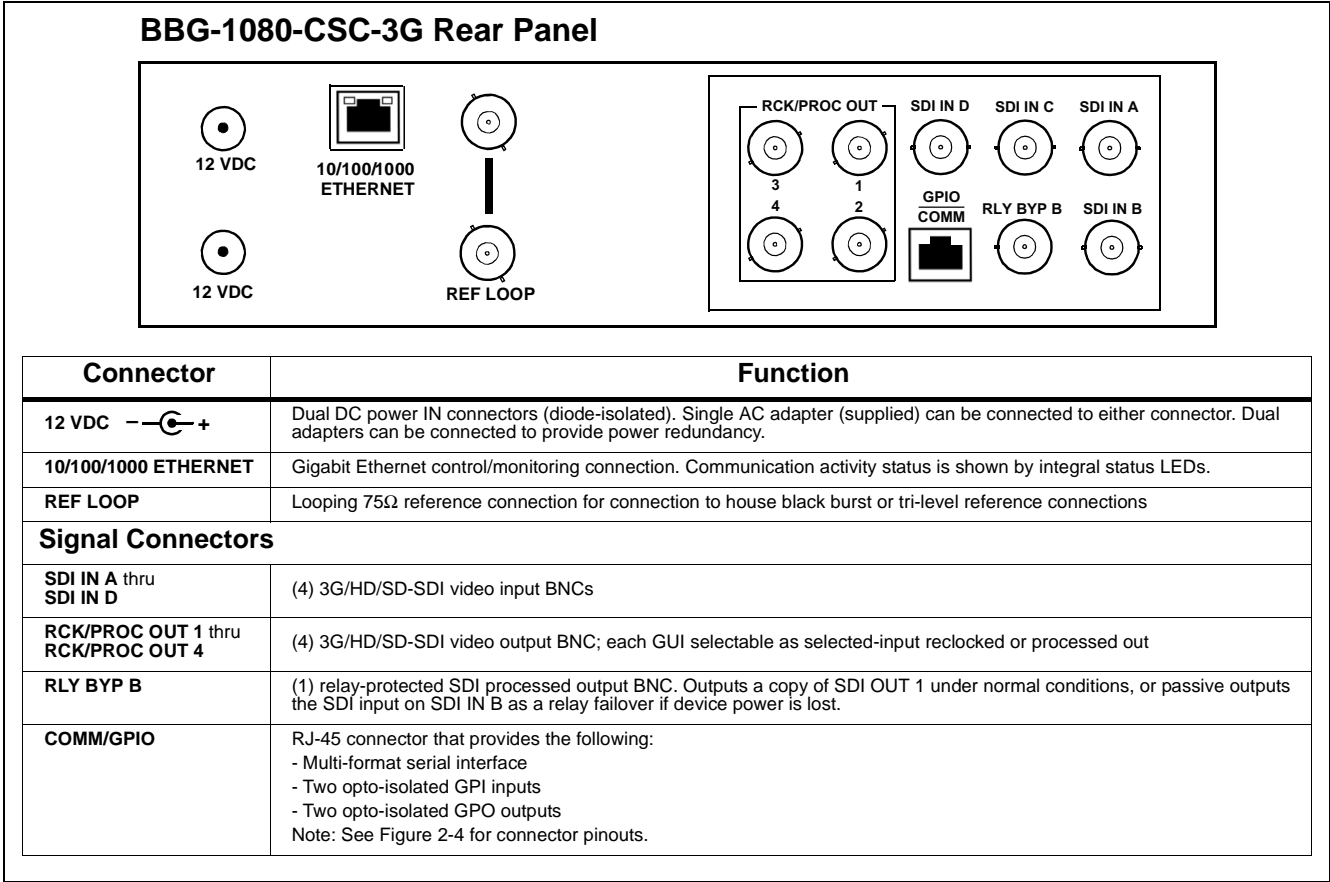

Figure 2-3 BBG-1080-CSC-3G Rear Panel Connectors
2. Connect the input and output cables as shown in Figure 2-3.
Perform rear panel cable connections as shown in Figure 2-3.